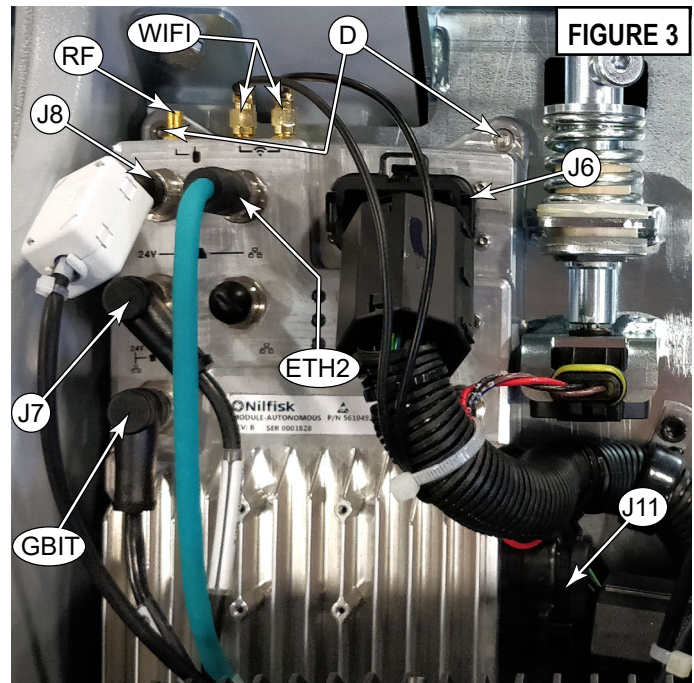

FIGURE 3
4. See Figures 3 & 4. Remove the two screws (D) that secure the autonomy module to the autonomy bay platform.
5. Lift the upper end of the autonomy module, and slide the module toward the steering wheel to release it from the lower Mounting Tabs (E).